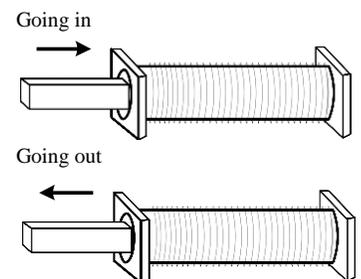

Figure 5
- 2) Click Start in DataStudio and move the magnet relative to the solenoid as shown in Figure 5. Try to understand how the graph is representing the motion of the magnet; pay particular attention to what happens as you change the speed of the magnet, flip its polarity, or use the other end of the solenoid, which is essentially equivalent to reversing the leads to the voltage sensor. Each person in the lab group should take a turn moving the magnet until they understand these 3 basic features. If the data on the graph becomes too small to see well, then you may click Stop and then Start to reset data collection; you may also completely clear the data by selecting "Delete All Data Runs" under the Experiment tab as many times as you need.